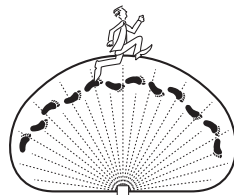

Figure 12
2. Perform a “walk test”: walk in an arc across the front of the motion sensor (see Figure 12).